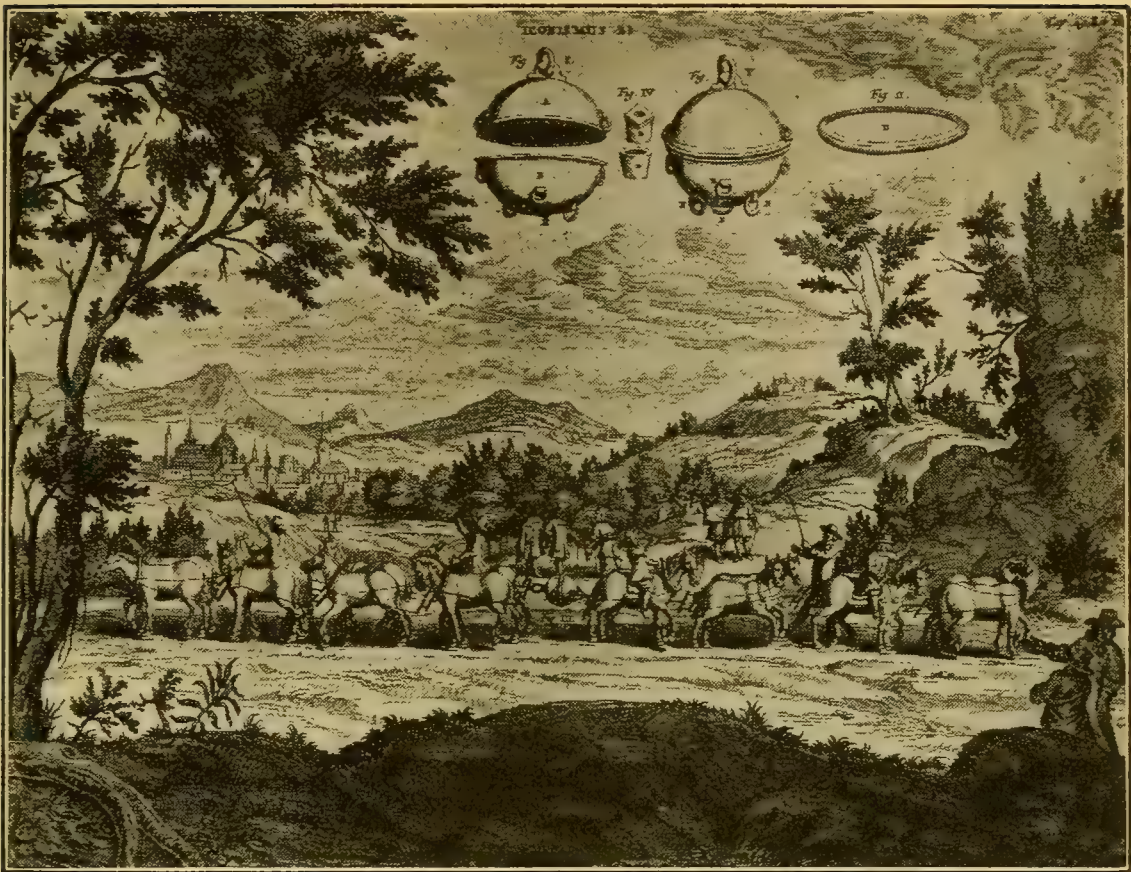

FIGURE 95. — THE MAGDEBURG EXPERIMENT.
64. The Magdeburg Hemispheres. — The great pressure of the atmosphere was strikingly shown in the seventeenth century by Otto von Guericke, the burgomaster of Magdeburg. He made two hollow iron hemispheres about two feet in diameter with smooth rims that fitted tightly together. When the two rims were fitted into each other and the air exhausted from the hollow globe thus formed, eight teams of horses pulling on the hemispheres were needed to pull them apart (Figure 95). This historical experiment was performed in the presence of the German emperor, Alexander III, and the Reichstag.